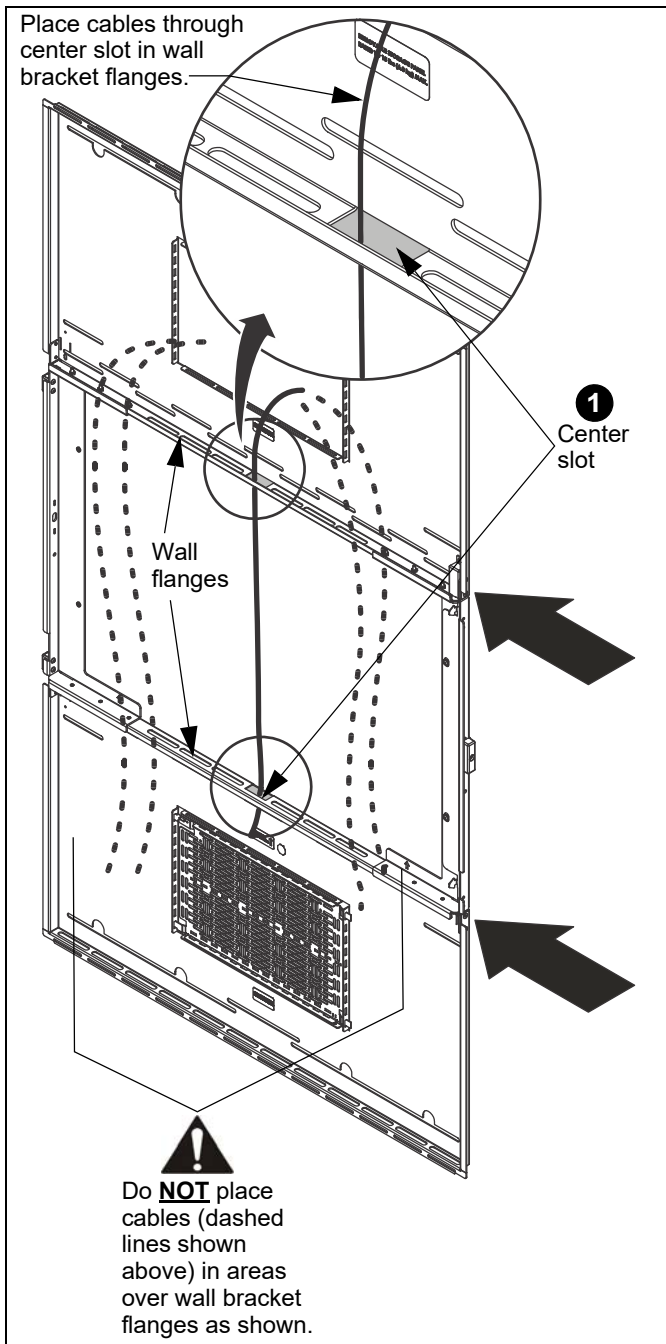

Figure 12
1. Cables may be placed through the center slot in the wall bracket flanges. (See Figure 12)
**IMPORTANT !** : Cables should not be placed **OVER** the wall bracket flanges. Damage to cables may occur. (See Figure 12)